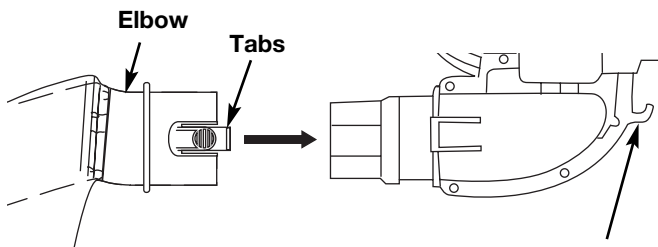

Fig. 5
- Install the vacuum bag adapter over the blower outlet and push on it until both tabs snap into place (Fig. 5). Position the bag so it hangs below the unit.
- Remove the vacuum bag by pressing both tabs on the vacuum bag elbow at the same time and pulling the bag off the blower (Fig. 5).